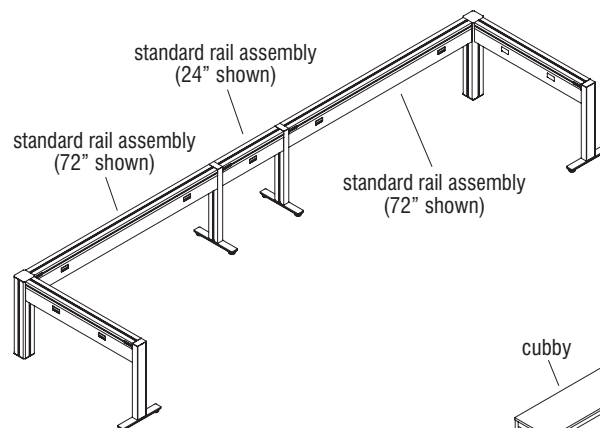

Figure 15
- Rail assemblies 24", 30" & 36" in length may only be configured inline to extend the length of a configuration (Figure 15).